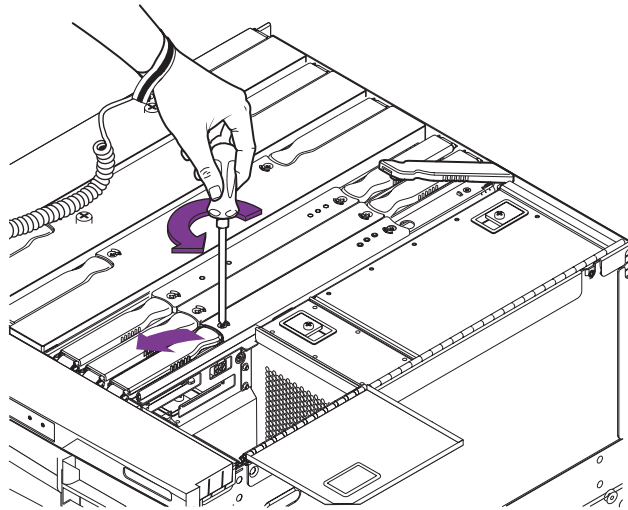

FIGURE 8-4 Unlocking the IB_SSC Assembly Ejector Levers
11. From the right of the system, unlock the ejector levers on the IB_SSC assembly with a Phillips no. 2 screwdriver (FIGURE 8-4).